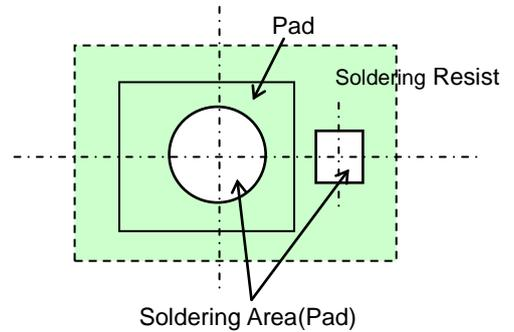

Fig.6 Soldering pad & resist pattern (for Example)
(1) For Large Package type
* The pads, except for soldering should be protected with solder resist as shown in Fig.6. This will help prevent of movement of components, solder absorption, provide electric insulation, and prevent moisture damage.